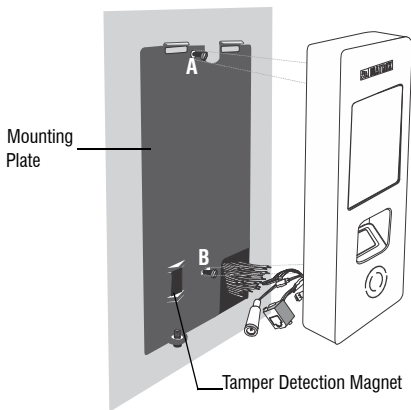

Fig. 4. Fixing the Mounting Plate
- Trace out screw holes on the wall along the holes (A and B) on the Mounting Plate (Figure 4).